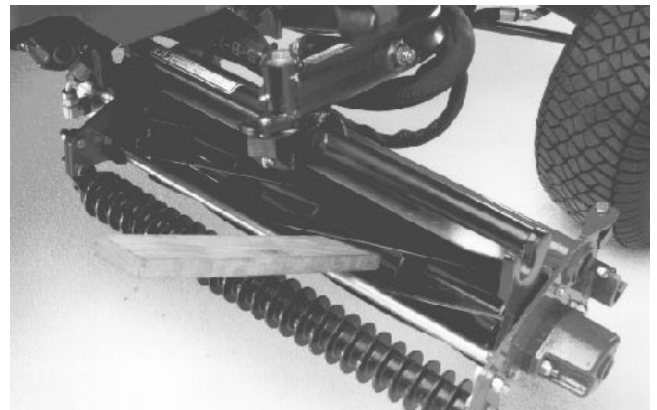

Figure 20b
4. With cutting units in lowered position and engine OFF, insert a block of wood, as shown in Figure 20b, between cutting unit reel blades and front cross tube of **left-rear (No. 2)** cutting unit to prevent reel from turning.